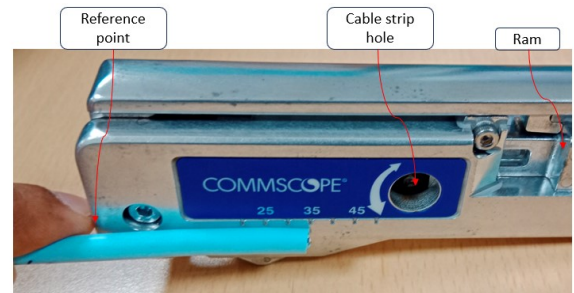

Figure 1
1. Place the cable next to the scale on the side of the tool. Stop the end of the cable at the mark below the desired strip length (indicated in mm). Refer Figure 1.